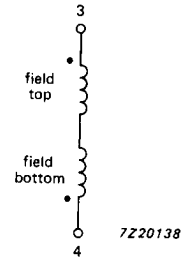

Fig. 2b Field coils.
**Field deflection coils, series connected (Fig. 2b);**